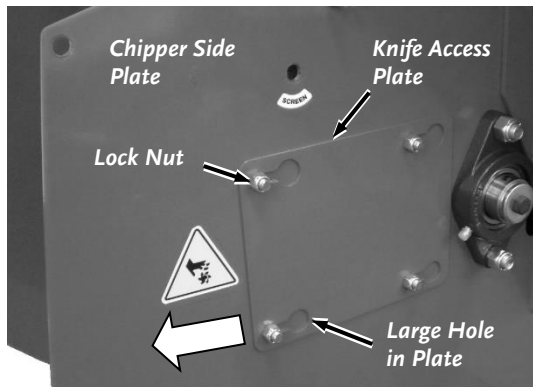

Figure 34
7. Loosen the four Lock Nuts that hold the Knife Access Plate to the Chipper Side Plate, using a 1/2" Wrench (**Figure 34**).
17. Reinstall the Knife Access Plate (**Figure 34**).